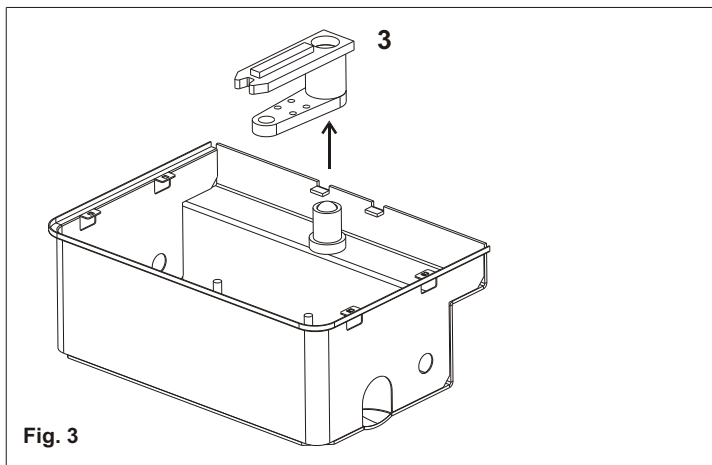
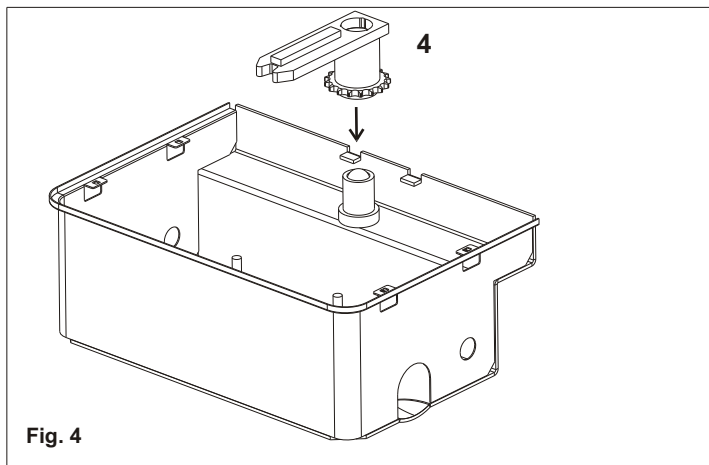

Fig. 3
Fig. 4
Replace piece 3 of Fig. 3 with piece 4 of Fig. 4
N.B.: During the insertion of the units lubricate them with the supplied grease (Fig.3, Fig.4).